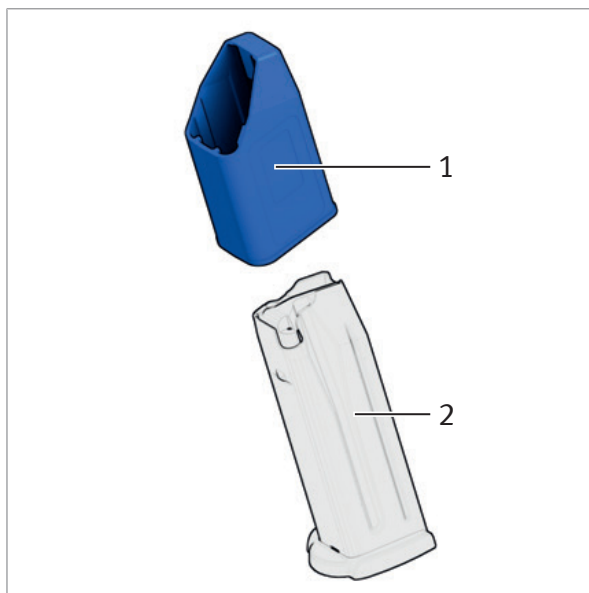

Fig. 41: Place loading aid on magazine
1. Place loading aid on magazine (Fig. 41).